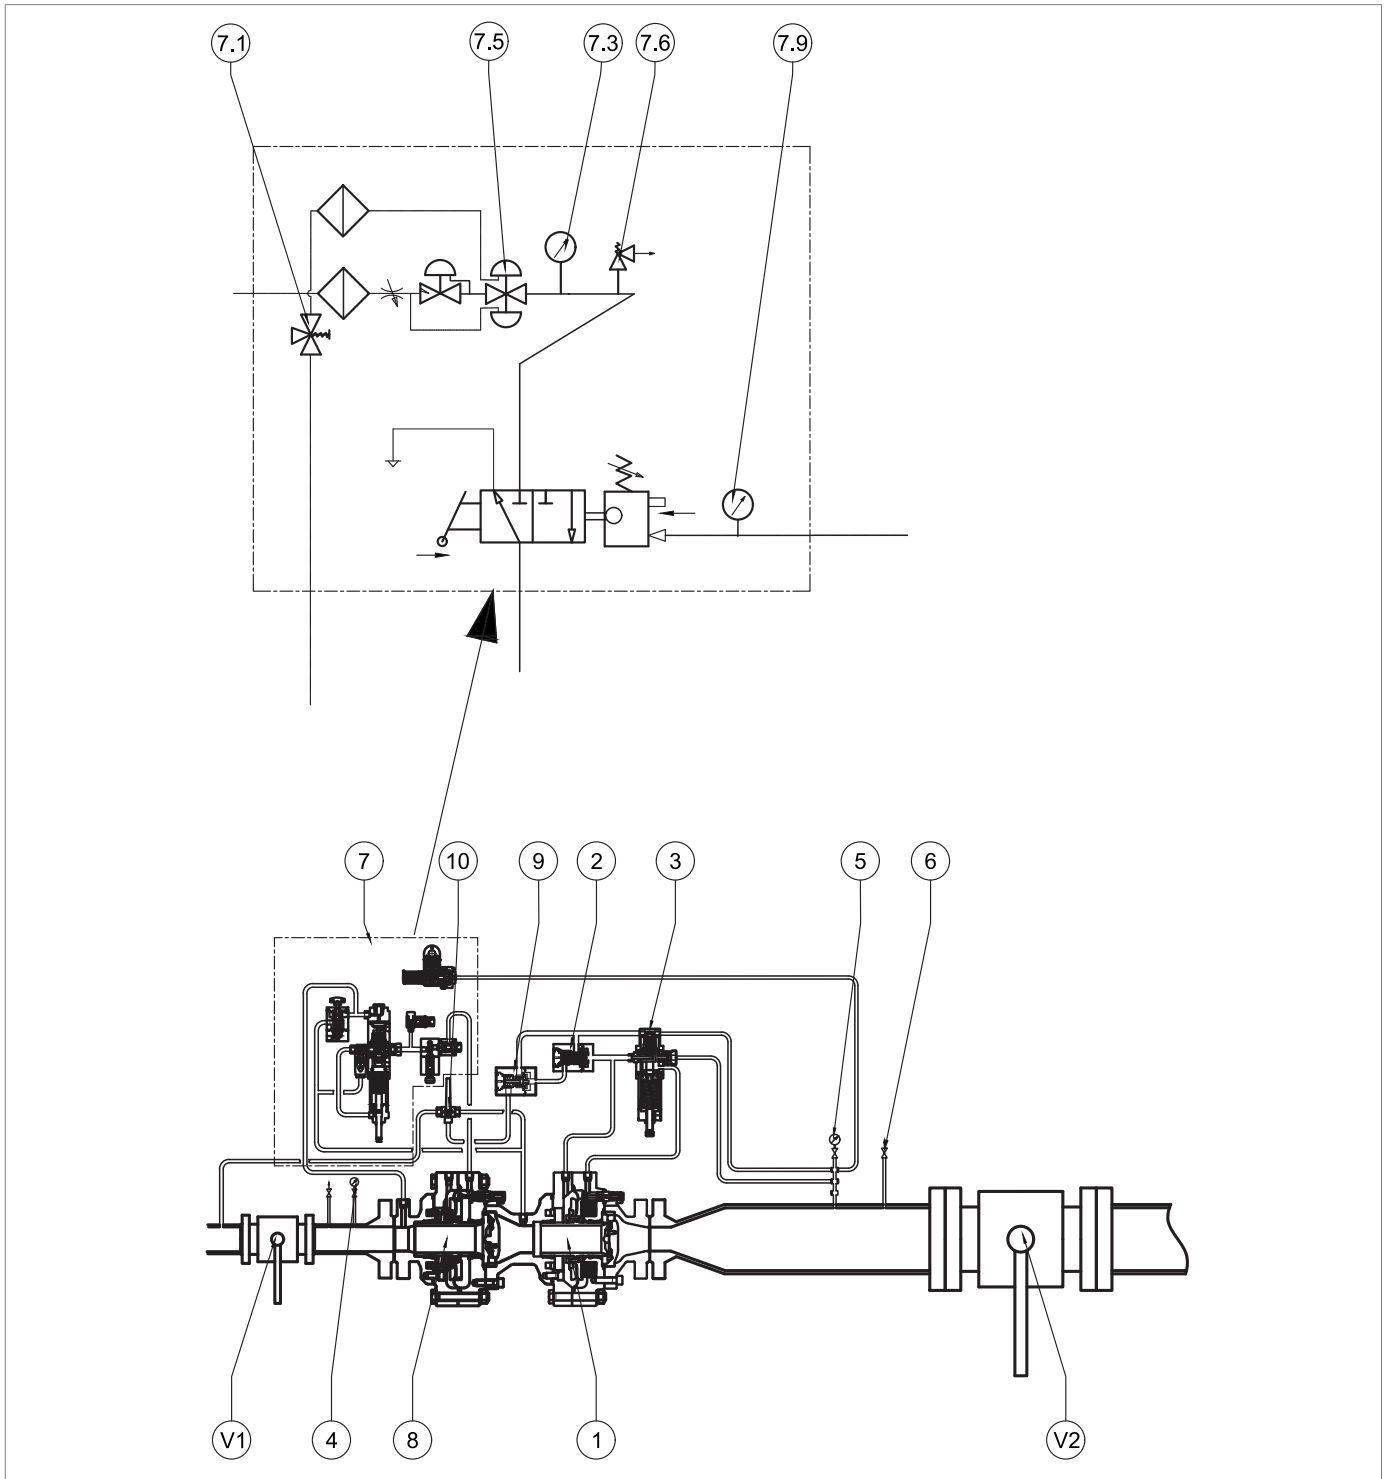

Fig. 8.28. LINE OFF 2.0 commissioning and calibration for the SSX/176 built-in slam-shut valve
4	Equalize the upstream and downstream pressure of the slam shut valve using the HP2/2 by-pass valve (Fig. 8.28, ref. 7.1).
- Next, check that the pressure indicated by the pressure gauge installed on the LINE OFF 2.0 device (Pos. 7.3 - Figure 8.28.) is 0 bar, ensuring complete depressurisation of the line.**